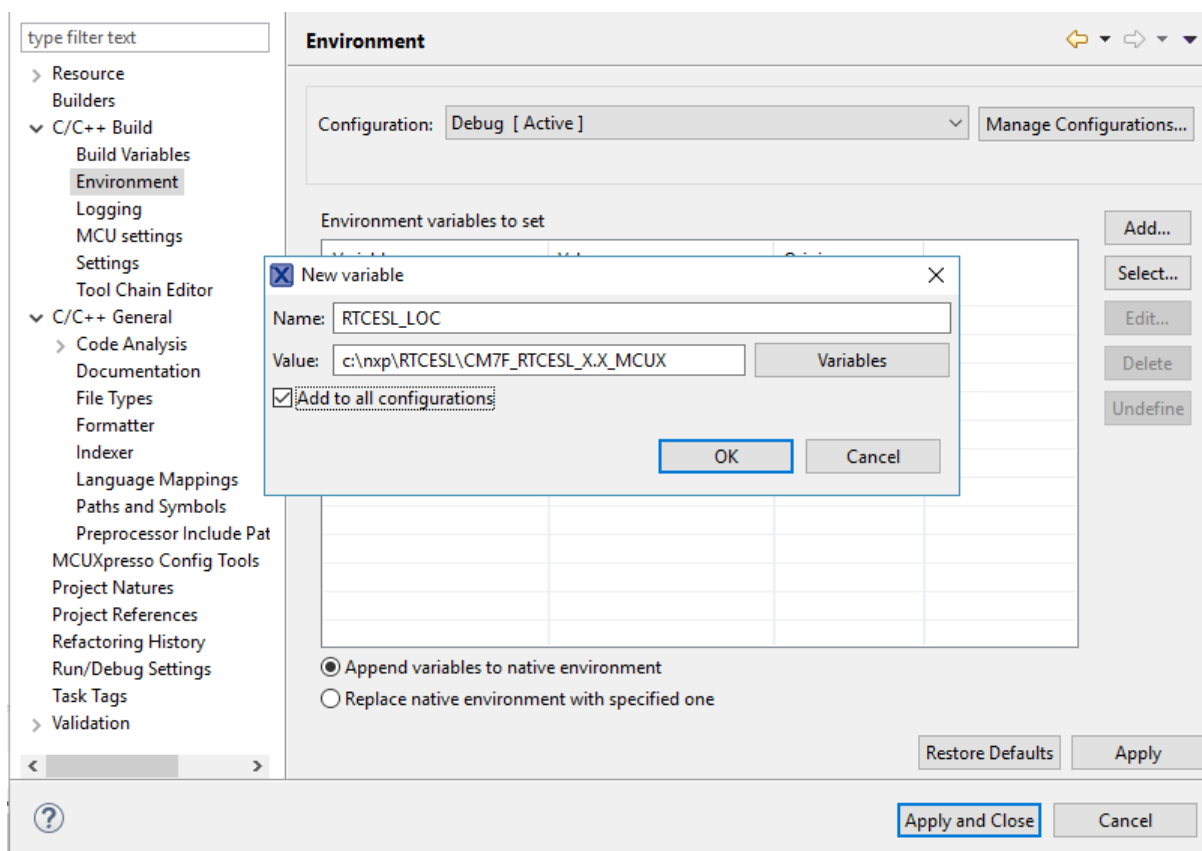

Figure 1-5. Environment variable
8. In the dialog that appears (see Figure 1-5), type this variable name into the Name box: RTCESL_LOC.
10. Tick the Add to all configurations box to use this variable in all configurations. See Figure 1-5.